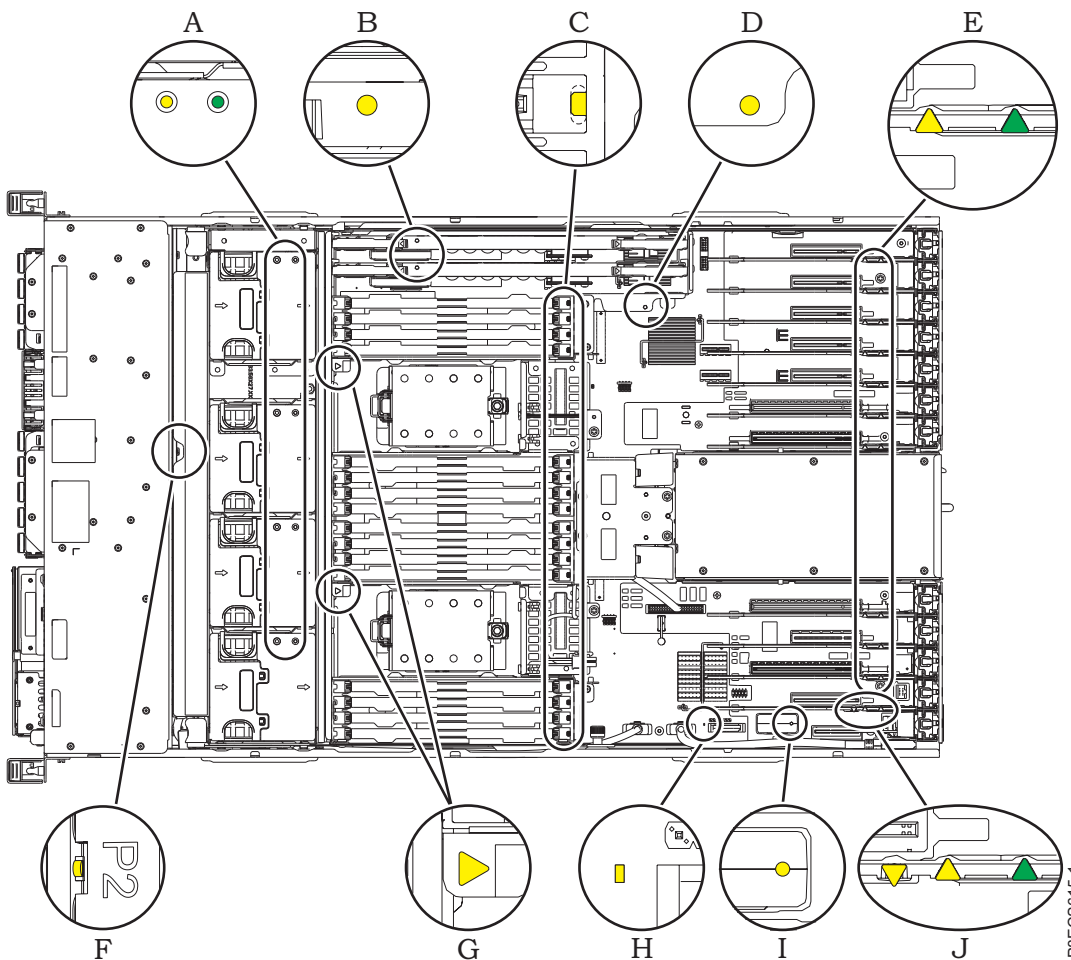

Figure 1. Service indicator LEDs
5. Look for the amber LED (I) of the vital product data card. See Figure 1.